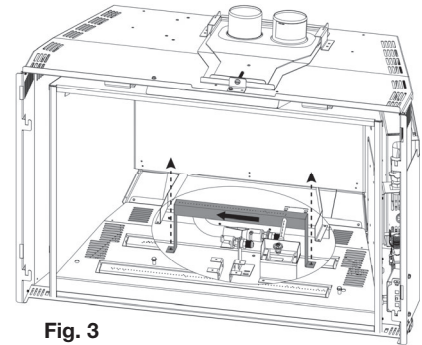

Fig. 3
- 4. Remove the 2 screws securing the rear burner in place. Slide the rear burner to the left and out (Fig. 3).